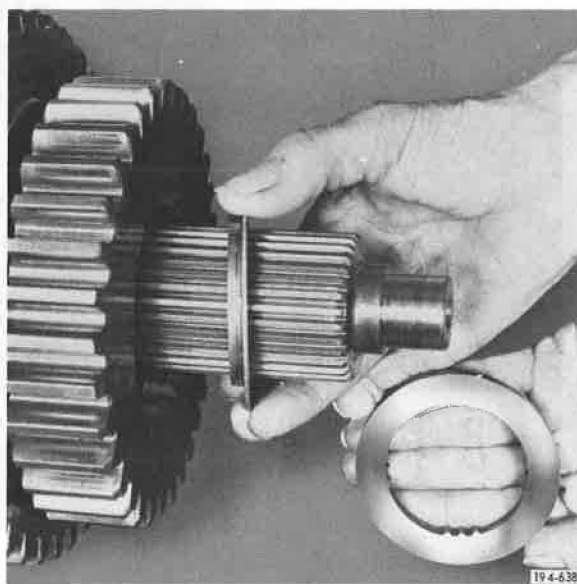

Figure 120. Removing Thrust Washers
5. Remove fourth speed gear splined thrust washer and flanged thrust washer. See Figure 120.